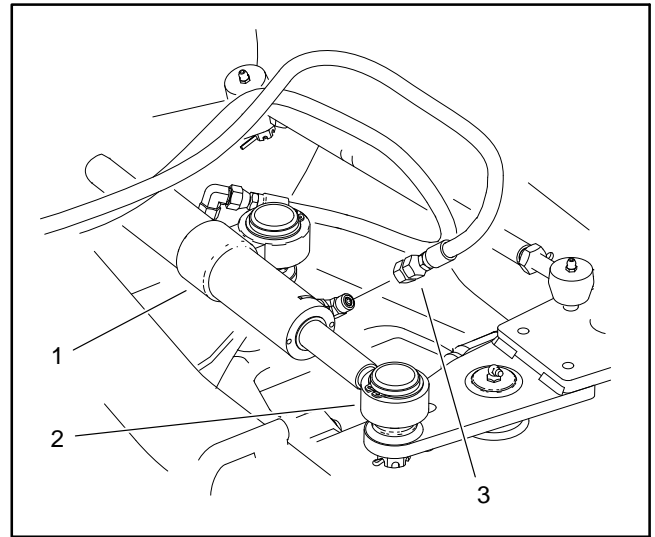

Figure 18
E. Clean the hose fitting and disconnect the hydraulic hose from the fitting on the trunnion end of the steering cylinder (Fig. 18). Plug the end of the hose.